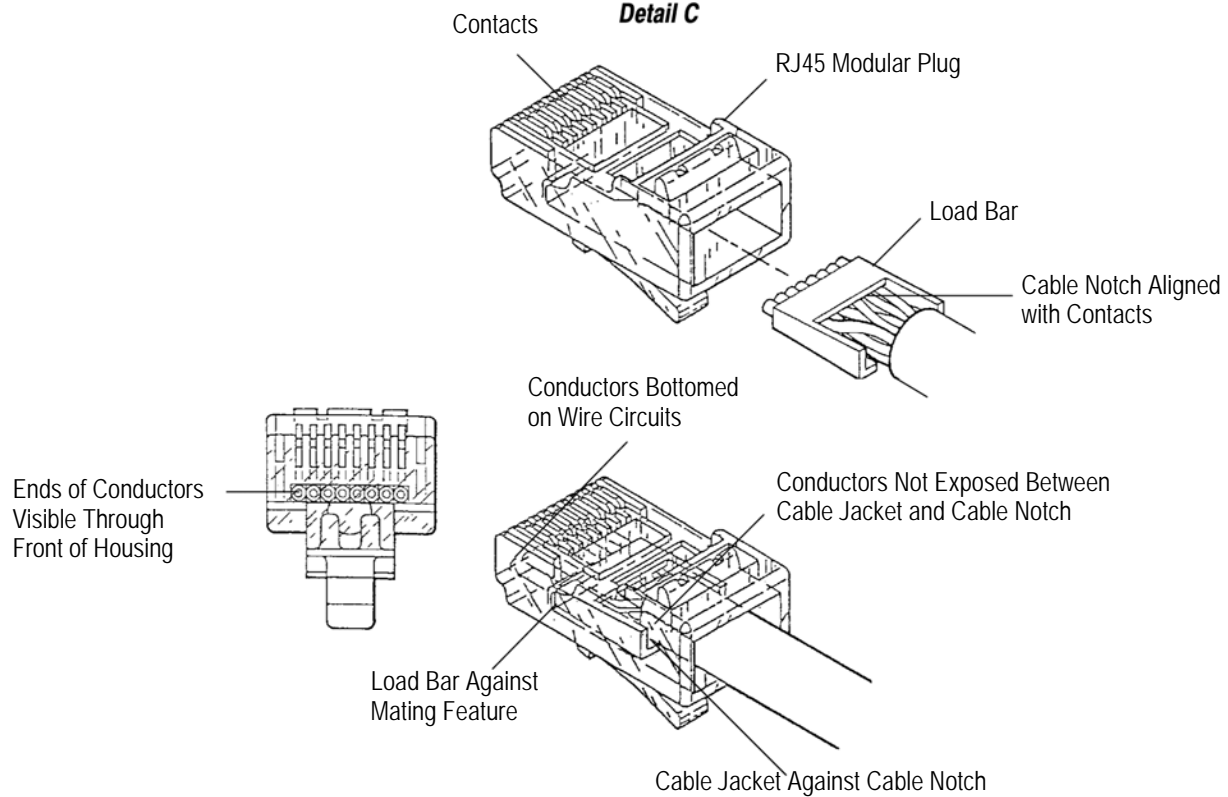

Figure 4
- 1) The conductors (maintaining arrangement) must be inserted into the load bar (oriented so that the cable notch will align with the contacts) until the cable jacket rests against the cable notch. The conductor twist must not enter the front of the load bar. The conductors must be trimmed evenly and square with the front edge of the load bar to the dimension given in Figure 4, Detail A.
- 2) The conductors must be retracted from the load bar so that the conductors protrude from the end of the load bar to the dimension given in Figure 4, Detail B. The top of the load bar must not be deformed.
- 3) The load bar (oriented so that the cable notch is aligned with the contacts) must be inserted into the modular plug until it butts against the mating feature of the modular plug, and the conductors are bottomed on the wire circuits. The cable jacket must be against the cable notch after the load bar is fully seated. The conductors must not be exposed between the cable jacket and cable notch. The ends of the conductors must be clearly visible through the front of the modular plug. See Figure 4, Detail C.